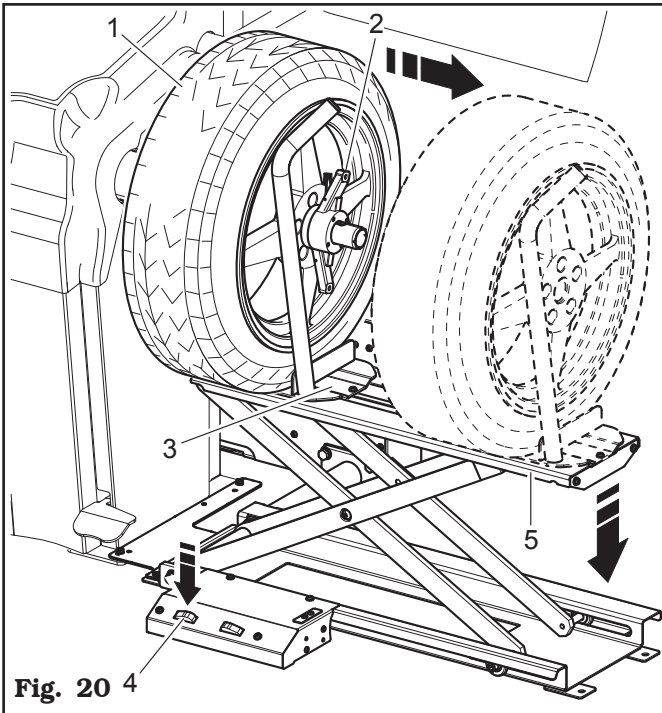

Fig. 20 4
- Unlock the wheel (Fig. 20 ref. 1) engaged to the mandrel, removing the locking devices (Fig. 20 ref. 2).
- Move rightwards the wheel support (Fig. 20 ref. 3) together with the tyre that is leaning against it.
- Press the lowering pedal (Fig. 20 ref. 4) and then lower the footboard (Fig. 20 ref. 5).